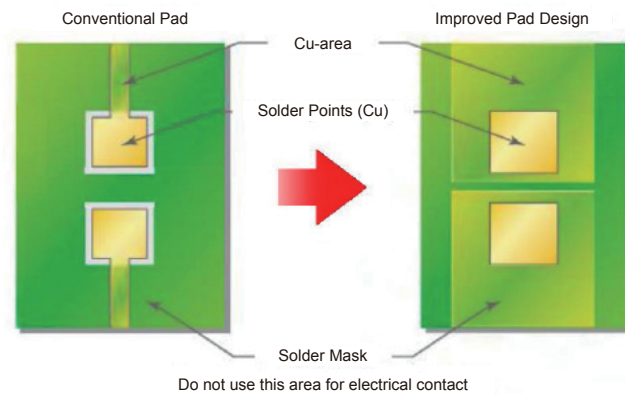

Fig. 12
- High-power LED devices require optimization of heat dissipation. Increasing the size of metal mounting surface and proper application of thermal conductive paste will help improve heat dissipation. Refer to below diagram (Fig.12) and product datasheets for specific design recommendations.